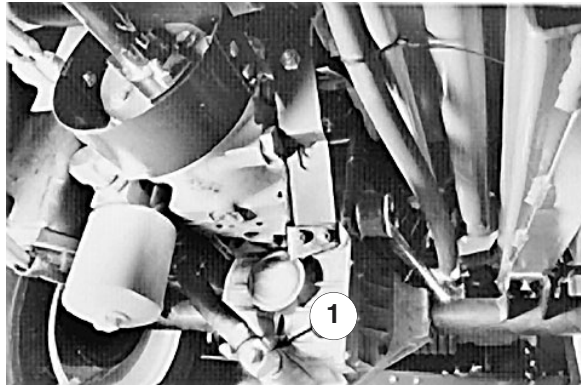
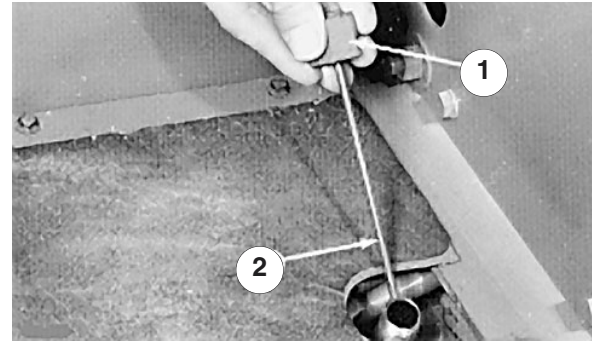

Figure 49
Figure 50
4. Remove drain plug from the fitting between axle housing and oil filter and let the oil flow into a drain pan (Fig. 49).
6. Install the drain plug in the fitting between the axle housing and oil filter (Fig. 49).
7. Remove the dipstick from the axle filler tube (Fig. 50) and fill the axle to proper level with correct type and viscosity oil recommended for expected ambient temperature conditions; refer to table above.
9. Let the machine sit for two additional minutes, then remove the dipstick and check the oil level in axle (Fig. 50). If the level is low, add oil until the level matches the groove in the dipstick (Fig. 50). If the level is too high, remove the drain plug (Fig. 49) and drain oil until the oil level matches the groove in the dipstick.